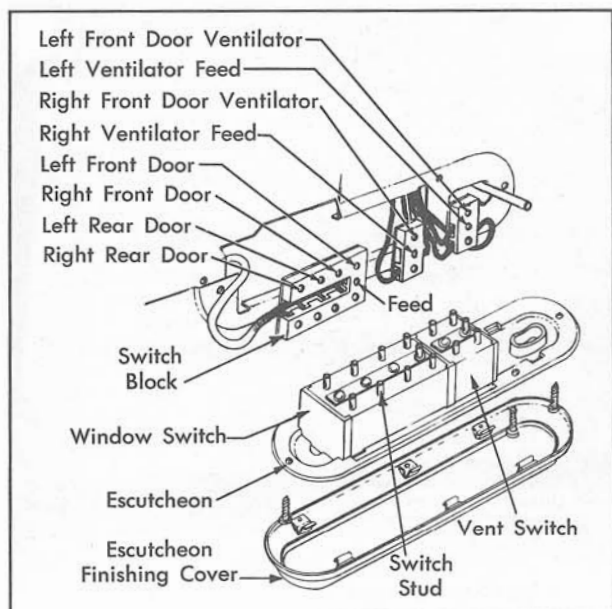

Fig. 17-9 Left Door Master Control Switch
5. Remove escutcheon attaching screws and carefully disengage switch studs from switch block, Fig. 17-9.